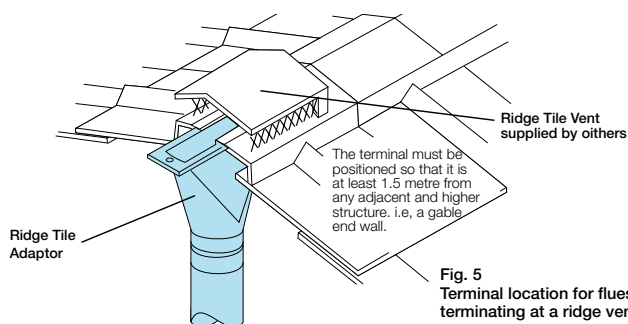

Fig. 5 Terminal location for flues terminating at a ridge vent.
**18 Ridge Tile Adaptor** Used to adapt the vent to the rectangular opening or Ridge Tile Vents which exhaust the combustion products only at the apex of the roof. Separate instructions are provided with this component. See Fig 5.
To avoid adverse wind or pressure effects which might impede vent flow, the termination must be correctly located in relation to the roof and any nearby structures. Building Regulations, via BS 5440 Part 1, stipulate the legal requirements shown in Figs 5 to 8. NB A ridge tile vent terminal must be positioned so that it is not less than 1.5m from any adjacent structure. i.e. the gable end wall of an adjacent and higher dwelling. See Fig 5.